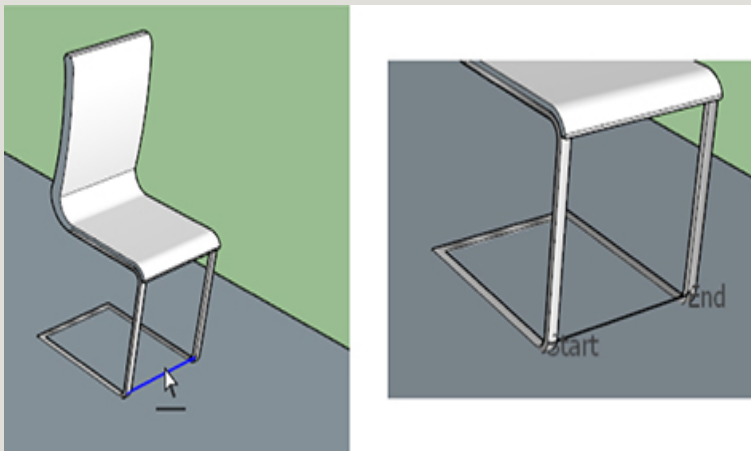

Figure 4-21 Click the tool onto the red axis line to select it. “Start” and “finish” will appear.
5. Run the cursor over the red axis line drawn in step 2. When it turns blue, click it. The words “Start” and “End” will appear (Figure 4-21).